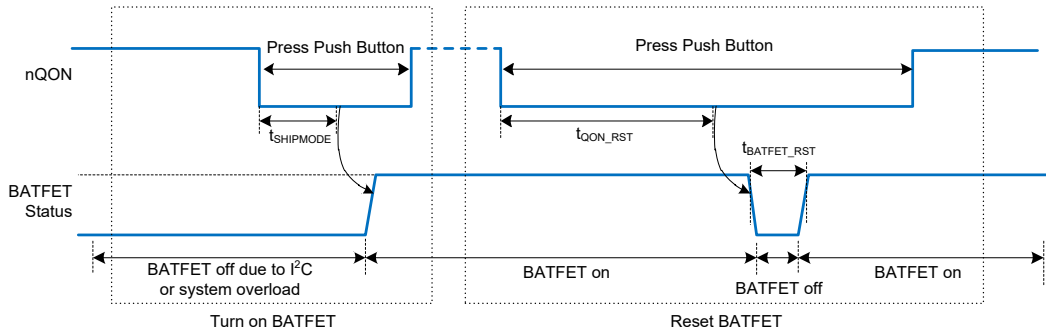

Figure 11. nQON Enable and Reset BATFET Timing
1. Enable BATFET: Applying an nQON logic high to low transition with longer than $t_{SHIPMODE}$ deglitch time (negative pulse) turns on BATFET to exit ship mode (Figure 11 left). HIZ is also enabled (EN_HIZ = 1) when exiting shipping mode. After exiting shipping mode, the host can disable HIZ (EN_HIZ = 0). OTG cannot be enabled (OTG_CONFIG = 1) until HIZ is disabled.
2. Reset BATFET: By applying a logic low for a duration of at least t_{QON_RST} to nQON pin while VBUS is not powered and BATFET is allowed to turn on (BATFET_DIS bit = 0), the BATFET turns off for t_{BATFET_RST} and then it is re-enabled resulting in a system power-on reset (Figure 11 right). This function can be disabled by clearing BATFET_RST_EN bit.